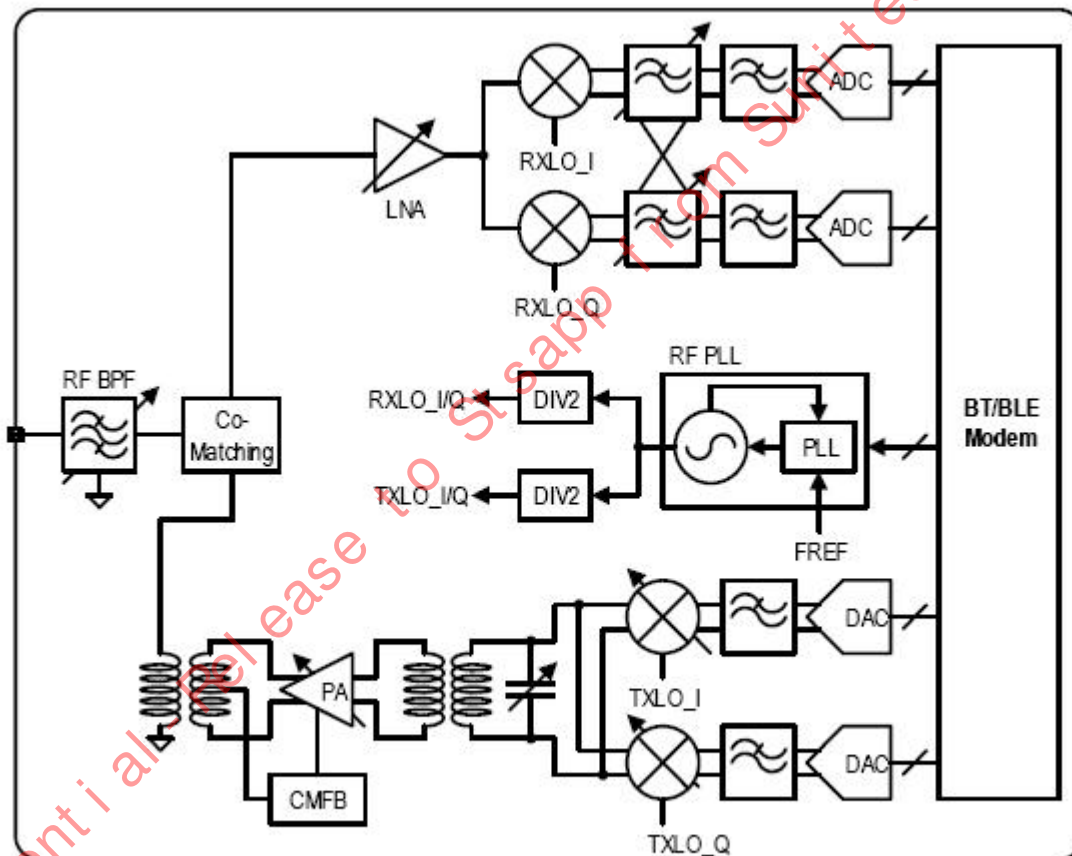

Figure 5.1-1. Bluetooth RF transceiver system
The MT2822A series Bluetooth (BT) RF subsystem (as shown in Figure 5.1-1) consists of a highly integrated transceiver with tunable on-chip RF band pass filter (BPF) and BT TRX co-matching network. MT2822A series adopts a low intermediate frequency (LIF) receiver architecture. The receiver, including the on-chip RF BPF and TRX co-matching network, consists of a LNA and single balanced passive mixer, a complex BPF and a pair of 10-bit SAR ADCs. The MT2822A series BT receiver has best-in-class out-of-band blocking performance without the need of any external RF BPF.